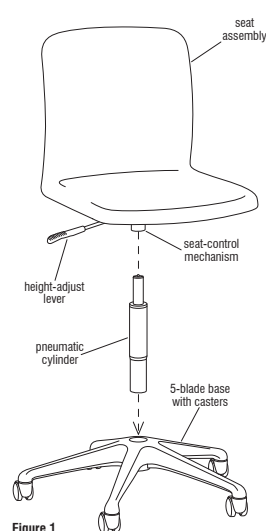

Figure 1
1. Carefully unpack all contents from packaging, then locate and identify the parts shown in Figure 1.
2. Turn the 5-blade base with casters to the upright position onto the floor. Orient the pneumatic cylinder as shown placing the larger end of the cylinder into the hole in the center of the base as illustrated (Figure 1).
3. Carefully position the seat assembly over the pneumatic cylinder, aligning the hole in the underside of the seat-control mechanism with the top, smaller end of the pneumatic cylinder. Press the seat assembly onto the pneumatic cylinder, then sit on the seat to completely drive the components together. While sitting, actuate the height-adjust lever to move seat to its lowest height position, then press lever and release seat pressure to adjust up to comfortable sitting height. Failure to do so could result in personal injury (Figure 1).